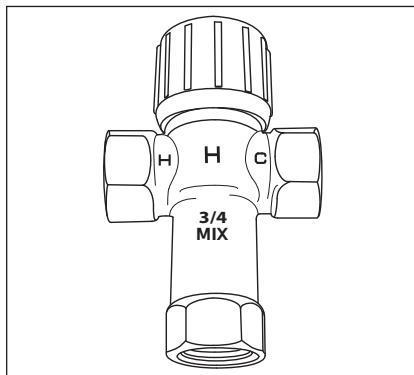

Figure 8 - Thermostatic Mixing Valves installed at each point-of-use can help avoid scalding.
- Point-of-use Thermostatic Mixing Valves (Figure 8 on page 8)
Install Thermostatic Mixing Valves (Figure 8) to regulate the temperature of the water supplied to each point-of-use (for example, the kitchen sink, bathroom sink, bath and shower). Consult the valve manufacturer’s instructions or a qualified person.
**▲ WARNING! Even if the water heater thermostat is set to a relatively low temperature, hot water can scald. Install Thermostatic Mixing Valves at each point-of-use to reduce the risk of scalding (see page 4 and Figure 8).**